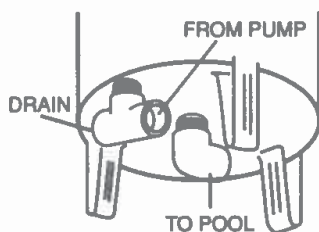

FIG 3:
#### SUGGESTED INSTALLATION (Fig. 3)
1. Install thread to socket "T" on the side nipple as shown in figure 3. Pipe water from discharge of pump to one side of this "T".